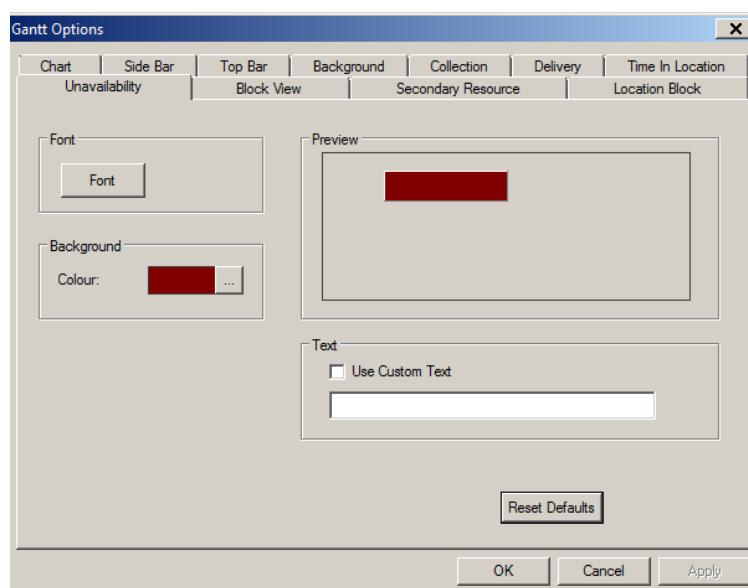

Figure 202
3. Click  **OK** to confirm the changes and return back to the **Unavailability Window**(Figure 202)